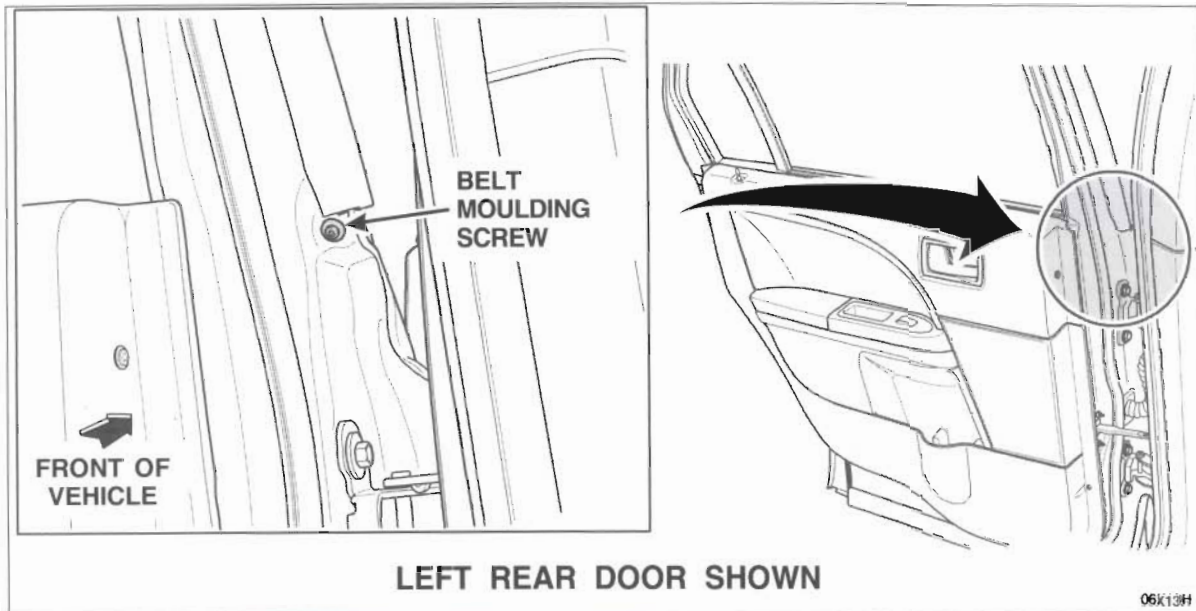

FIGURE 8
2. Open the rear door and remove the belt moulding screw. See Figure 8.